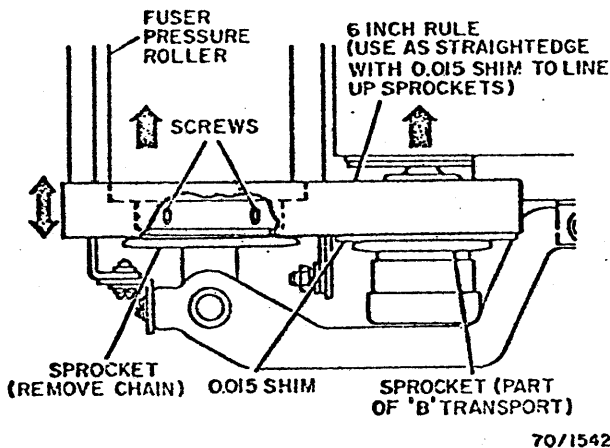

Fig. 3-187. Sprocket
2. Loosen the screws (Fig. 3-187) and remove play in the fuser pressure roller.